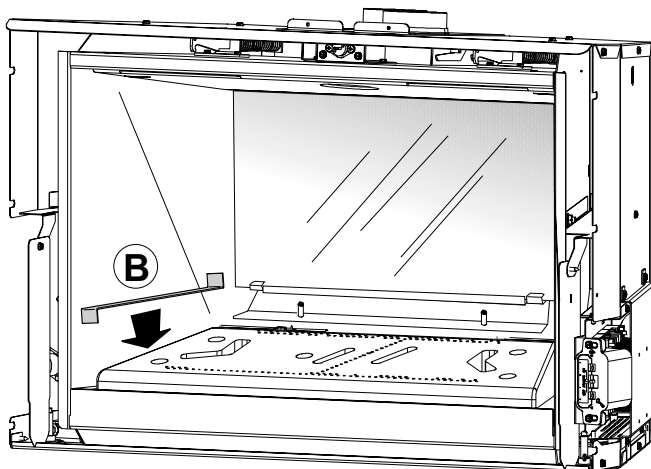

Figure 26. Install side panel shelves.
- Place each Side Panel Shelf (B) on top of the steel spacer brackets between the burner and the side walls. Fig. 26.